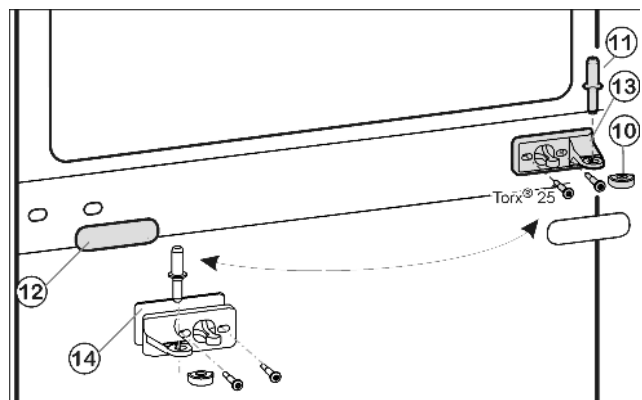
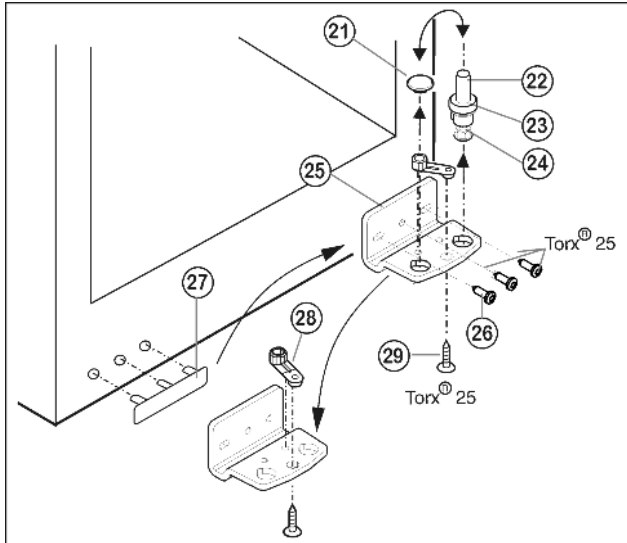

Fig. 8
Fig. 9
- ▶ Draw the middle bearing pin Fig. 8 (11) out of the turn hinge and lower door.
- ▶ Remove the plastic cap Fig. 8 (10).
- ▶ Unscrew the middle turn hinge (2x Torx® 25). Fig. 8 (13)
- ▶ Carefully detach the cover panel *Fig. 8 (12)*.
- ▶ Turn the middle turn hinge *Fig. 8 (13)* with the washer *Fig. 8 (14)* through 180° and screw it firmly into place on the new hinge side (**with 4 Nm**).
- ▶ Turn the cover panel *Fig. 8 (12)* through 180° and snap it into place again on the new handle side.
- ▶ Lift out the bearing pin *Fig. 9 (22)* together with washer *Fig. 9 (23)* and foot *Fig. 9 (24)*.
- ▶ Lift off the stopper *Fig. 9 (21)*.
- ▶ Unscrew *Fig. 9 (26)* the turn hinge *Fig. 9 (25)*.
- ▶ Unscrew *Fig. 9 (29)* the bearing element *Fig. 9 (28)*, transfer it to the opposite location hole of the turn hinge and screw it firmly into place.
- ▶ Carefully lift off the cover on the handle side *Fig. 9 (27)* and transfer it to the opposite side.
- ▶ Screw the turn hinge *Fig. 9 (25)* firmly into place on the new hinge side, possibly using a cordless screwdriver (**with 4 Nm**).
- ▶ Re-insert the stopper *Fig. 9 (21)* into the other hole.
- ▶ Re-insert the bearing pin *Fig. 9 (22)* together with washer and foot. In so doing, pay attention that the locating lug points backwards
- ▶ Place the lower door from above onto the lower bearing pin *Fig. 9 (22)*.
- ▶ Place the plastic cap *Fig. 8 (10)* back onto the middle turn hinge *Fig. 8 (13)*.
- ▶ Place the middle bearing pin *Fig. 8 (11)* in the lower door, on the new hinge side, through the middle turn hinge *Fig. 8 (13)*.
- ▶ Place the upper door on the middle bearing pin *Fig. 8 (11)*.
- ▶ If necessary, align the doors to the appliance housing by way of the two oblong holes in the bottom turn hinge *Fig. 9 (25)* and middle turn hinge *Fig. 8 (13)*. To do so, unscrew the middle screw in the bottom turn hinge *Fig. 9 (25)*.